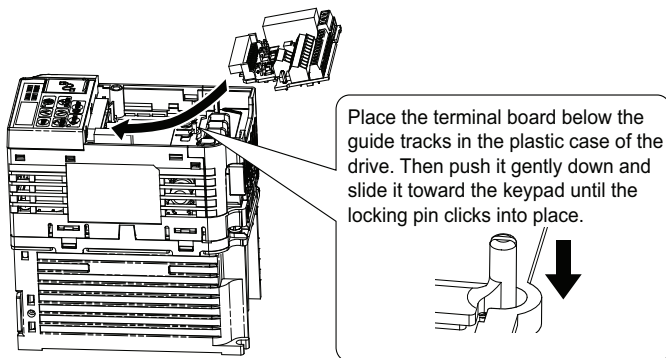

Figure 20 Terminal Board Reinstallation
5. Install the JVOP-TBVA03B□A Option on the drive according to Figure 20.